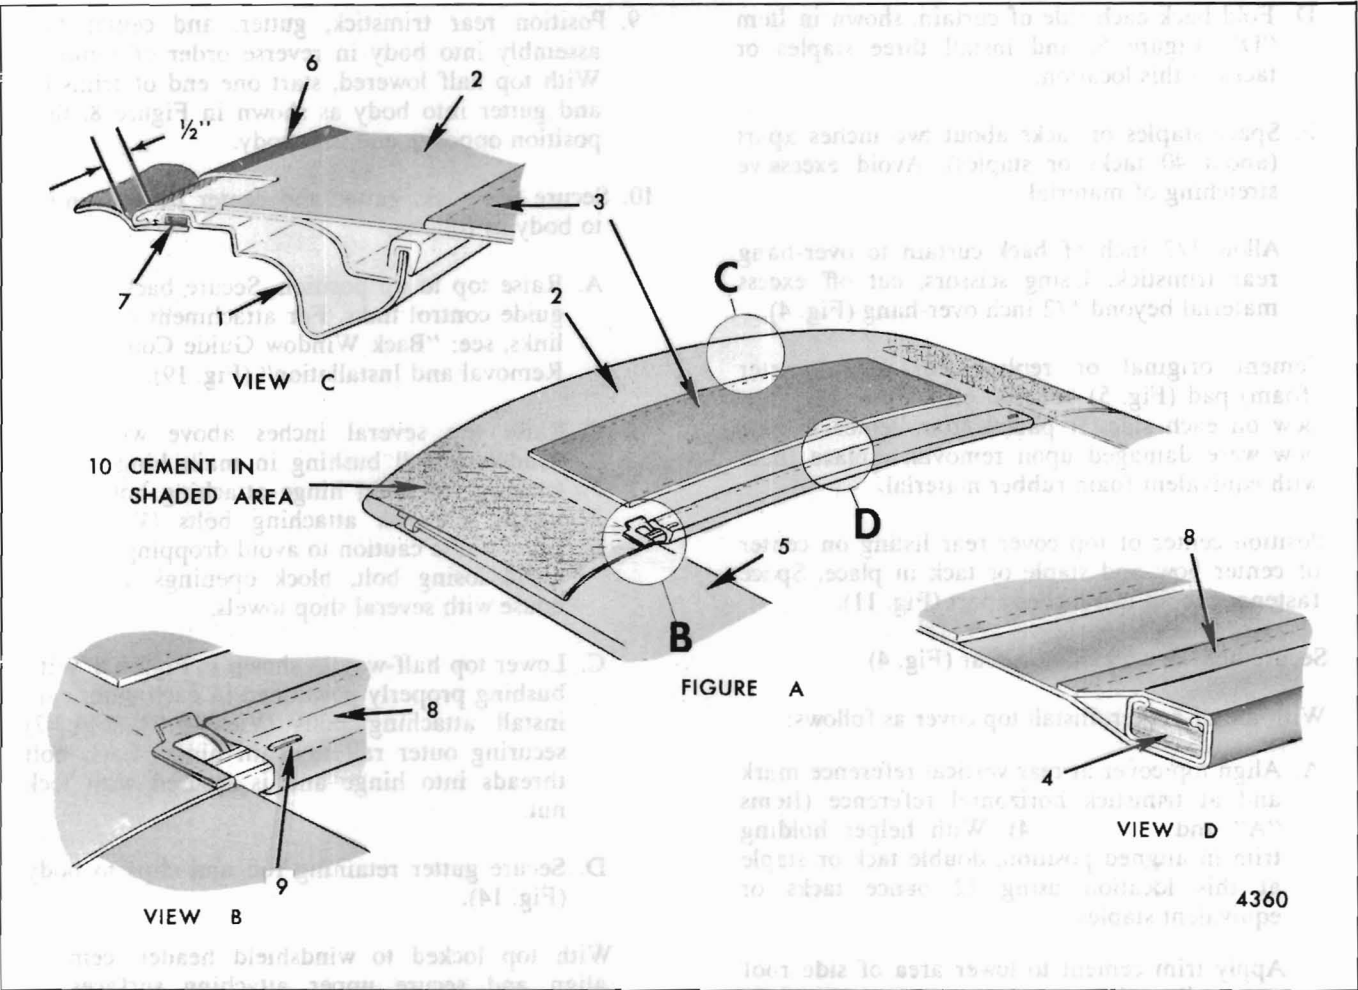

Fig. 13-Folding Top Silencer Assembly Attachment
- C. Unlock front roof rail, apply cement to attaching surfaces at front of cover and on front roof rail (Fig. 13). Apply cement to underside of front roof rail. This includes trimstick and both corners.
the folding top at the front, and is secured around its perimeter as follows (Fig. 13):
- Turn back top cover and detach cemented side sections of silencer from side quarter padding (Fig. 13).
1. With deadener padding on top side of assembly, slip pocket of silencer assembly onto front roof bow (Fig. 13). Center silencer between side quarter padding and secure silencer pocket to front roof bow by installing one staple or tack at each outer end as shown.
3. With top lowered, apply trim cement to front roof rail and to silencer as shown in Figure 13. Lock top to windshield header. With silencer centered between side quarter padding pull assembly forward tightly and secure to front edge of front roof rail. Cement only at forward 1/2 inch edge of front roof rail.
7. Detach affected side of silencer assembly where cemented to side quarter pad assembly (Fig. 13).
3. Using trim cement sparingly, cement affected side of silencer assembly to side quarter pad assembly (Fig. 13).